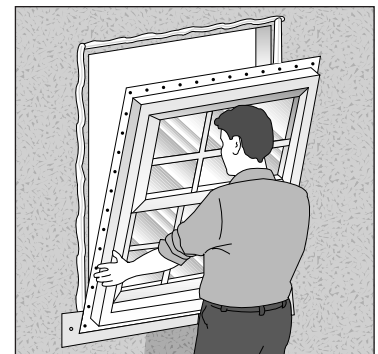

Figure 3
- Place sill on the shims located on sill plate. Center and rotate the window frame into the rough opening (fig. 3).